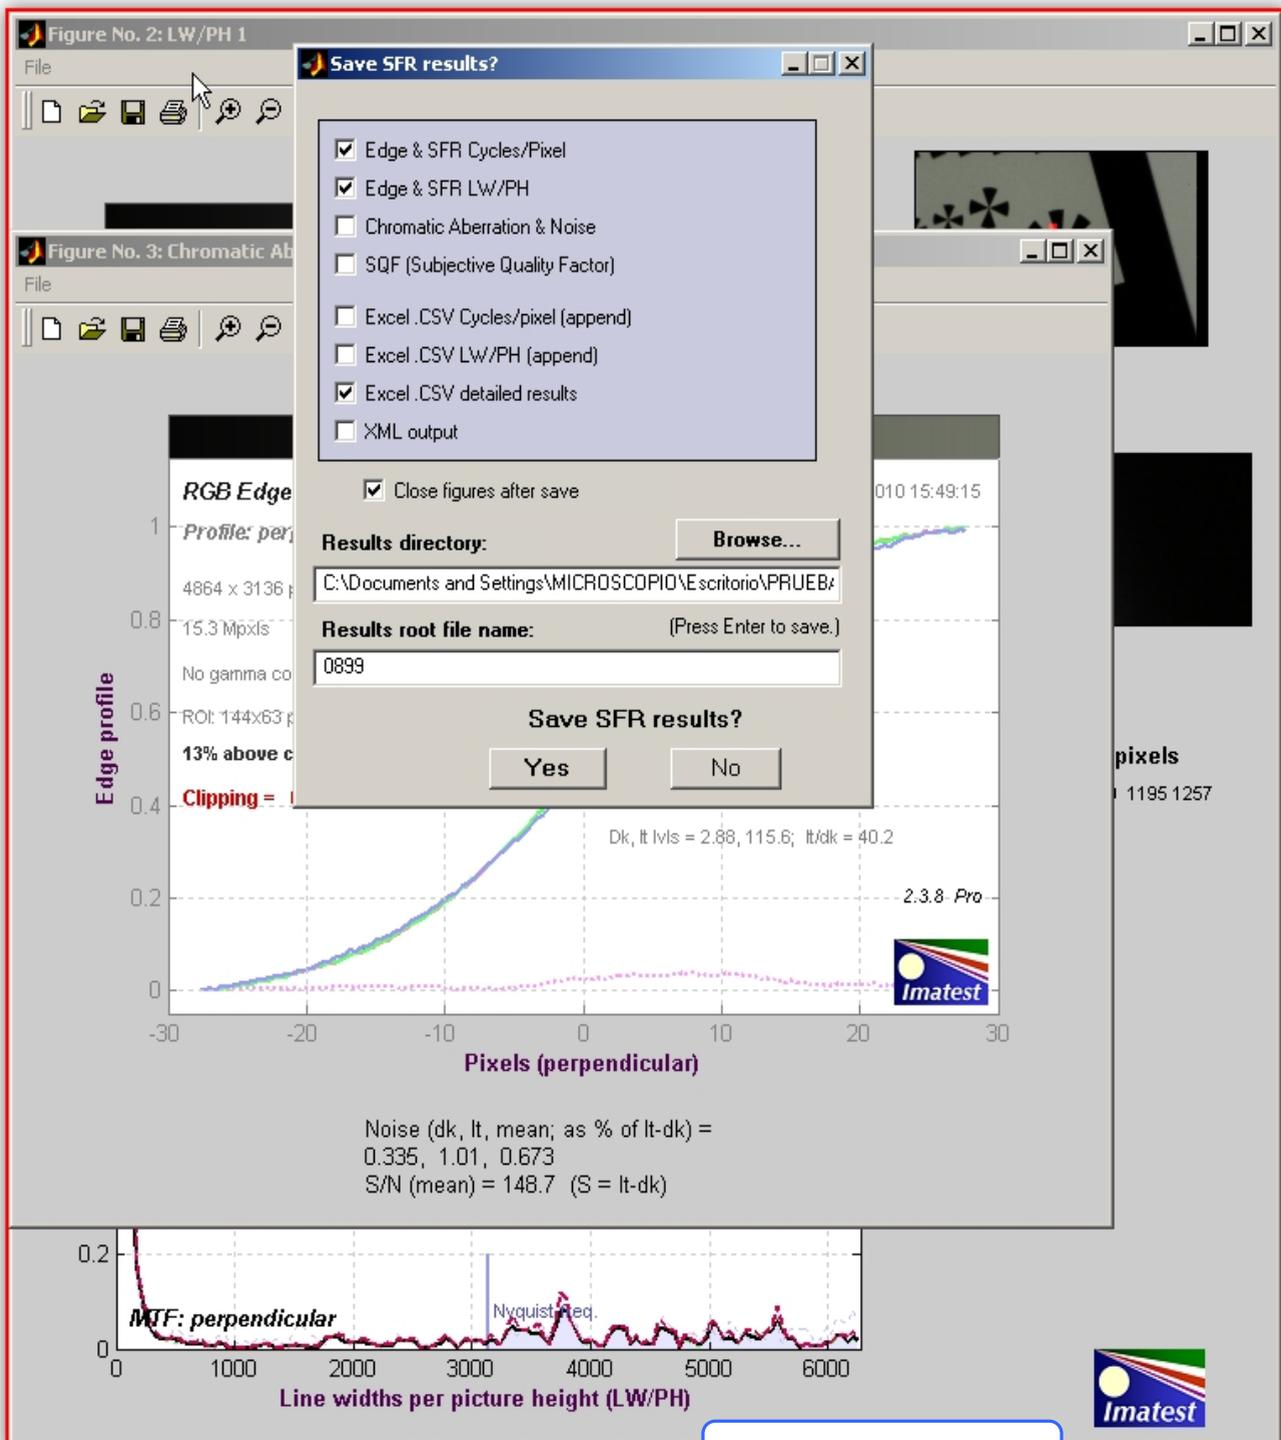

Fig. 15
7) Imatest™ analyzes the first ROI, and then pops up a window asking for data to be saved, its placement and main file name (Fig. 15). I have played around with these results, and I just checked what you see. It is what I found useful and not recurrent. Choose your results directory and leave “results root file name” as default. Imtests names it after picture #, and that’s what we need (remember we have a sheet of paper with picture # along with eyepiece being tested.) The first 4 rows must be checked to save plots for each point. The last four ask is raw (numeric) data to work in worksheets. Unfortunately, my Imatest™ version do not save “averaged” plots or “averaged” data, so each of the ROIs has his own plot, independently, and later on you have to combine data to calculate the average of those ROIs we selected earlier (new versions may vary!). You also check “close figures after save”. When you are finished, hit “Yes”, and Imatest™ will begin to make same calculations for rest of ROIs.